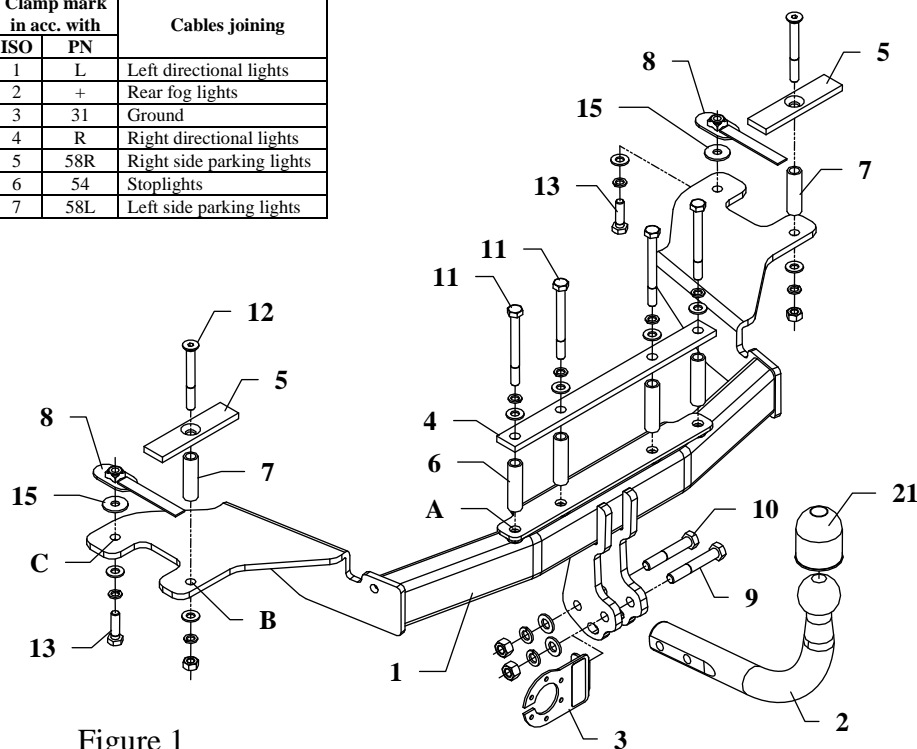

Figure 1
6. Put main bar of the towbar (pos. 1) to chassis in this way so holes A agree with holes drilled in metal beam. Inside trunk put distance sleeves (pos. 6), Apply central fish-plate (pos. 4) and fix loosely by bolts M10x100mm (pos. 11) as shown on figure 1.
9. From trunk side put distance sleeves (pos. 7) and fish-plates (pos. 5) and bolts M10x90mm (pos. 12). Fix loosely.
10. Through existing holes in chassis members put nuts on the jibs (pos. 8) and fix in points C using bolts M10x35mm (pos. 13) as shown on figure 1.